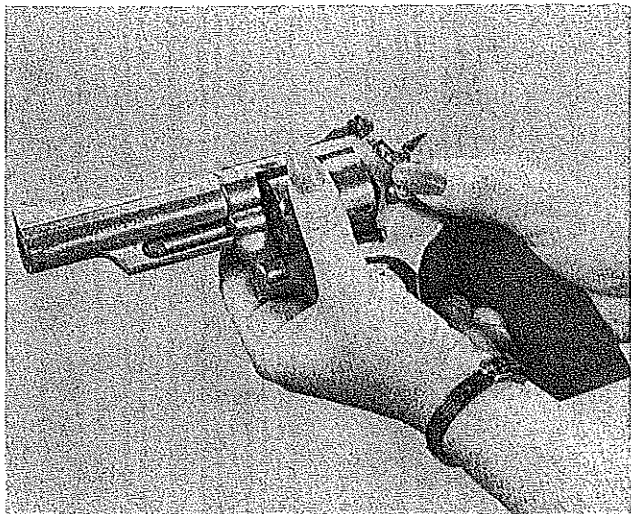

FIGURE 19
1. Place the right side of the revolver in the palm of the left hand with the right thumb on the cylinder latch. (Figure 19)